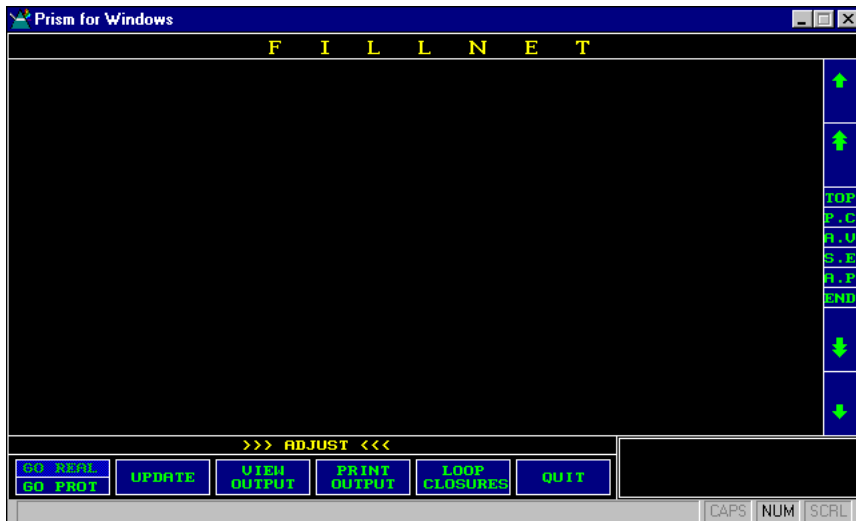

Figure 2.10: AUTOMATIC (ADJUST) Menu
18. Click on the **AUTOMATIC** button. The **AUTOMATIC** screen, Figure 2.10, will appear.
After you have performed the adjustment by pressing GO in the **AUTOMATIC** screen, you should have the output shown in Figure 2.10 on Page 24.